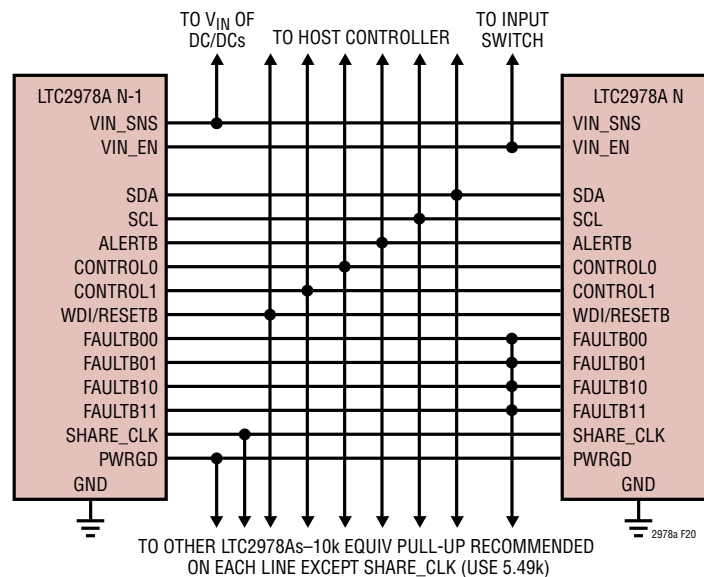
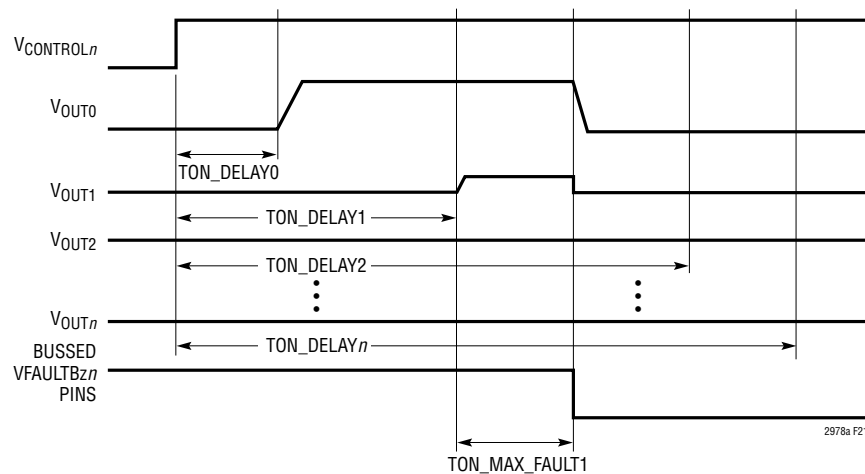

Figure 20. Typical Connections Between Multiple LTC2978As
Figure 21. Aborted On Sequence Due to Channel 1 Short
Figure 20 shows how to interconnect the pins in a typical multi-LTC2978A array.
- The FAULTBzn lines can be connected together to create fault dependencies. Figure 20 shows a configuration where a fault on any FAULTBzn will pull all others low. This is useful for arrays where it is desired to abort a start-up sequence in the event any channel does not come up (see Figure 21).
- PWRGD reflects the status of the outputs that are mapped to it by the MFR_PWRGD_EN command. Figure 20 shows all the PWRGD pins connected together, but any combination may be used. Note that the latency of the PWRGD pin response may be in the range of 30ms to 185ms depending on ADC MUX settings. See Electrical Characteristics Table Note 4.